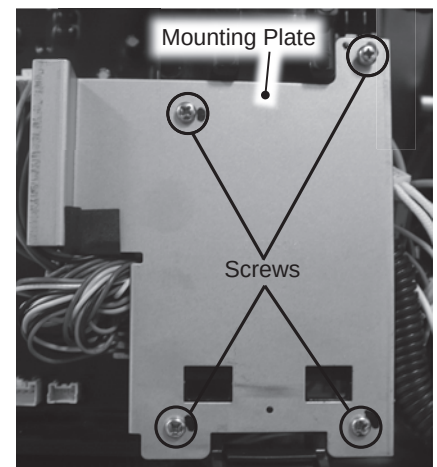

Figure 15 - Mounting plate screw removal.
- 7 Locate the four (4) screws securing the metal mounting plate. See Figure 15. Use a Phillips screwdriver to remove the screws. Place screws and mounting plate aside in a safe place for reinstallation.
36 Reinstall the metal mounting plate using the four (4) screws removed in **Step 7**. See Figure 15.